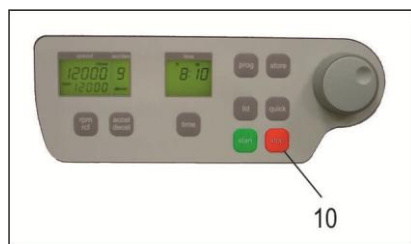

Figure 27
With the "stop" key (10), the run time can be interrupted, at any time, (see Figure 27). After pressing the key, the centrifuge decelerates with the respective pre-selected intensity, down to a standstill.